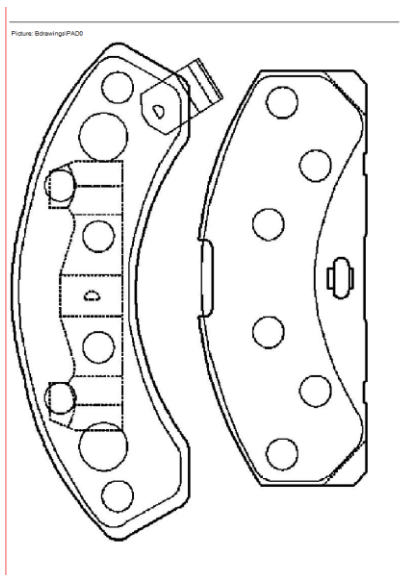

Figure 14: Rotated and scaled print
- If a drawing does not fit the page it will be scaled and/or rotated to fit the page. *Figure 14: Rotated and scaled print*